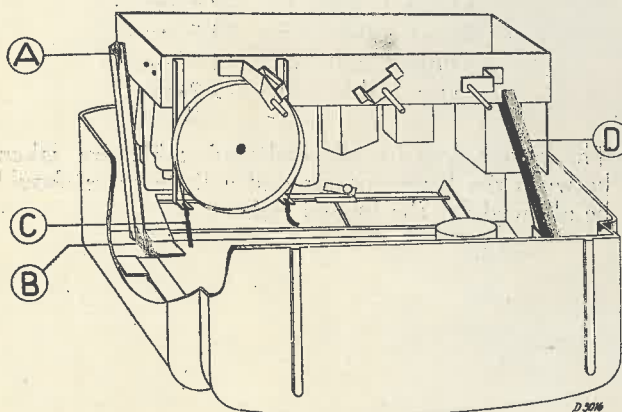

Fig. 5
For trimming the receiver the chassis is swung out of the cabinet as shown in sheets G, Fig. 5.
This receiver is so constructed that for most operations to the chassis, the latter need not be uncased, but may be swung out of the cabinet as shown in Fig. 5. To do this:
5. Slightly loosen screws A and B (see Fig. 5).
8. Lift up the chassis (see Fig. 5). Care must be taken not to place too much strain on the control cables, especially cable C.